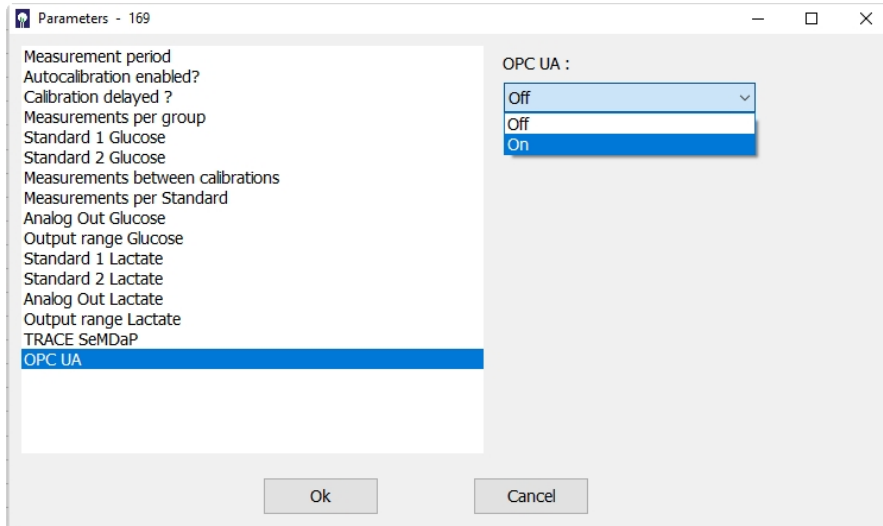

Figure 91: Activating the OPC UA server
- This function is factory disabled and can be activated here (Figure 91).